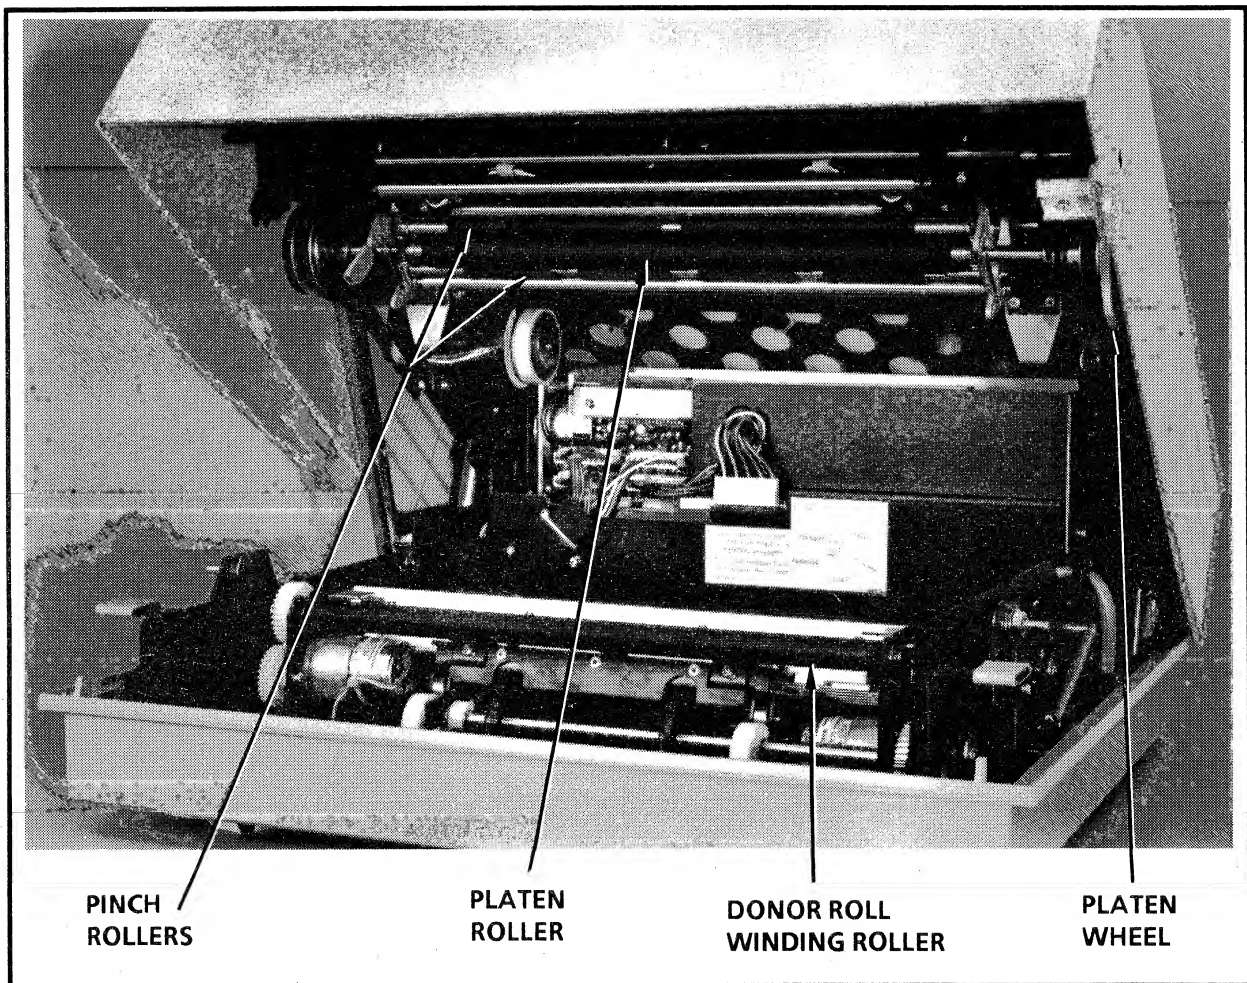

Figure 5-3. Platen Roller, Pinch Rollers and Donor Roll Winding Roller
Cleaning the Platen Roller (shown in Figure 5-3)
1. Locate the platen roller inside the plotter cover (Figure 5-3).
3. Wipe the roller back and forth along its length, using the platen wheel to rotate the roller (Figure 5-3). Repeat this process until all residue has been removed.
Cleaning the Pinch Rollers (*shown in Figure 5-3*)
1. Locate the pinch rollers (Figure 5-3).
Cleaning the Donor Roll Winding Roller (*shown in Figure 5-3*)
1. Locate the donor roll winding roller (Figure 5-3).